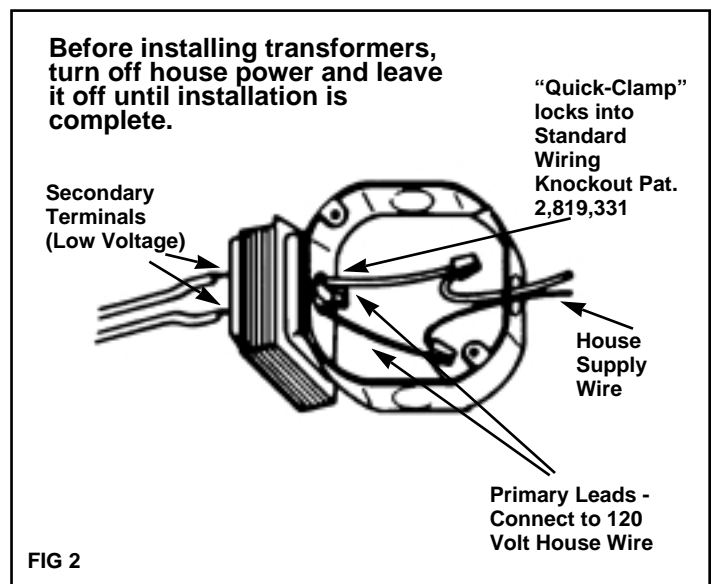

FIG 2
1. Refer to Fig. 2. Mount the transformers onto standard metal outlet boxes or at the circuit breaker box. A bracket is provided on the transformer for mounting to a 7/8 knockout. The transformer should be located in a basement, utility room or other accessible location. **DO NOT MOUNT TRANSFORMER IN ATTIC.**